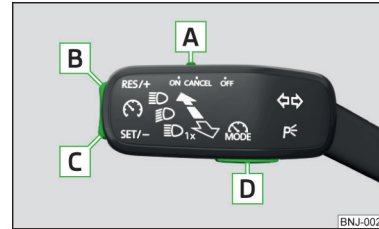

Fig. 218
Overview of the control elements of the CCS » Fig. 218
- ▶ By pressing button **D** » Fig. 218.
- By pressing the button **D** » Fig. 218 during the control procedure this is cancelled and the Speed Limiter is activated.